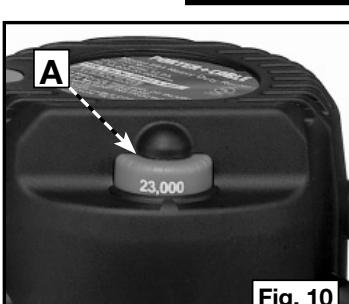

Fig. 10
This router is equipped with a variable speed control (A) Fig. 10 with an infinite number of speeds between 10,000 and 23,000 RPM.